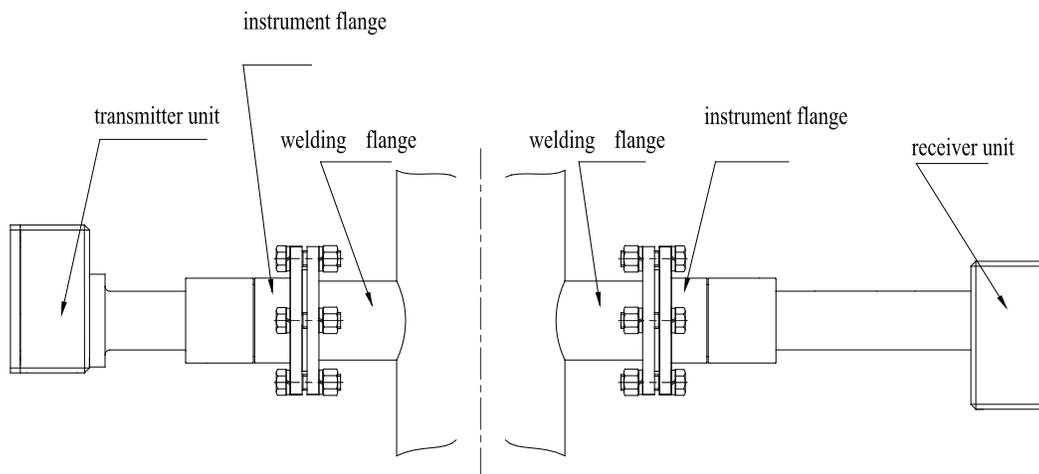

Figure 6.2 Removing the Transmitter Receiver Units
2. Loosen the mounting nut and take off the transmitter unit and the receiver unit (Figure 6.2). Check the optical parts for cracks, dust or other contaminants. If damage or contamination is evident refer to section 6.1.1 to clean and maintain the optical parts.